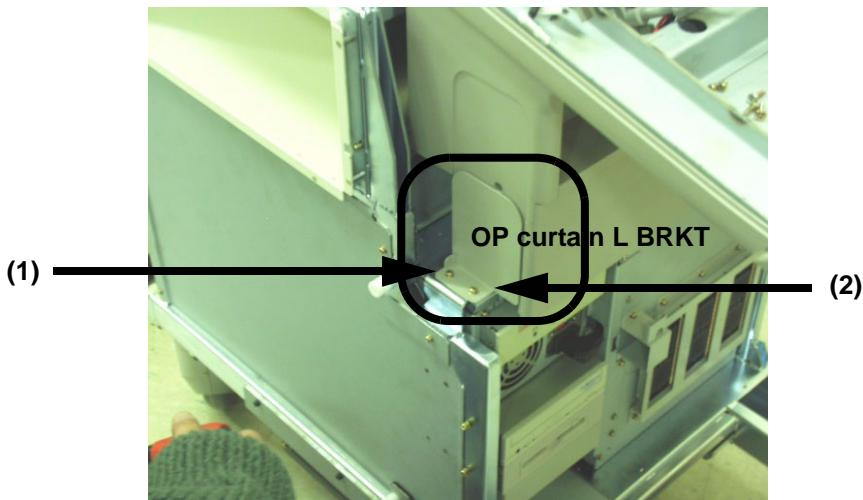

Figure 8-52 Removing OP Curtain L BRKT
- 6.) Unscrew two (2) screws (1-2) and remove OP Curtain L Bracket. Refer to Figure 8-52.